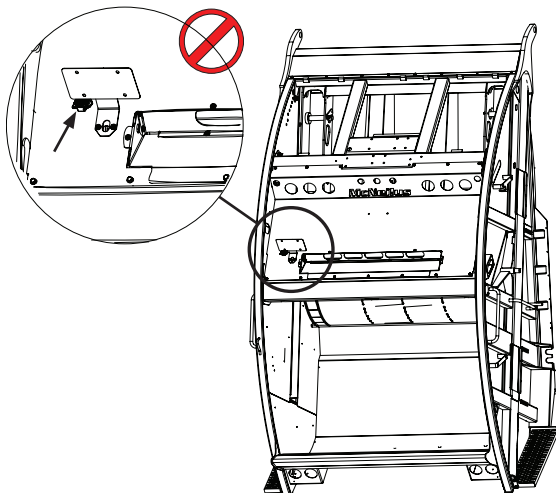

Figure 1
- If the license plate light is located on the bottom of the mount (Figure 1), it is noncompliant. Follow the instructions in this safety recall to relocate the light to the correct position.